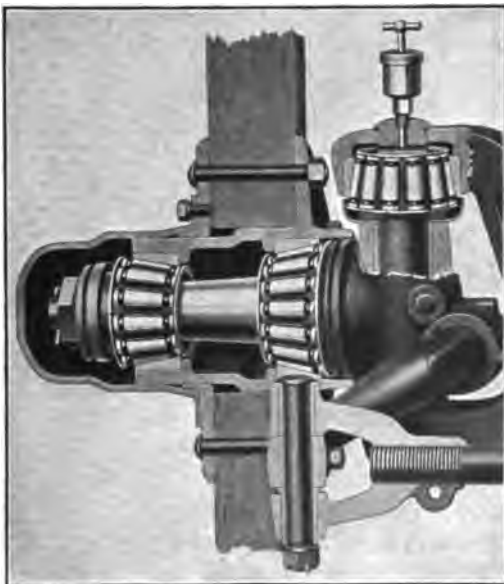

FIG. 110.—Timken roller bearings. As used in the front wheel of an automobile.
6. Four men raise an anchor weighing  $1\frac{1}{2}$  tons, with a capstan (see Fig. 110) having a barrel 9 in. in diameter. The circle described by the hand-spikes is  $13\frac{1}{2}$  ft. in diameter. How much force must each man exert?
(b) In Fig. 109 the friction between R and S would be greater than between R and T. In R and S the surfaces will fit closer together than in R and T. *The use of different materials will reduce friction.* The iron axles of car wheels revolve in bearings of brass. Jewels are used in watches for the same reason. (c) Another very common method of reducing friction is by the use of *lubricants*. The oil or grease used fills up the irregularities of the bearing surfaces and separates them. *Rolling friction* is frequently substituted for sliding friction by the use of ball and roller bearings. These are used in many machines as in bicycles, automobiles, sewing machines, etc. (See Fig. 110.)